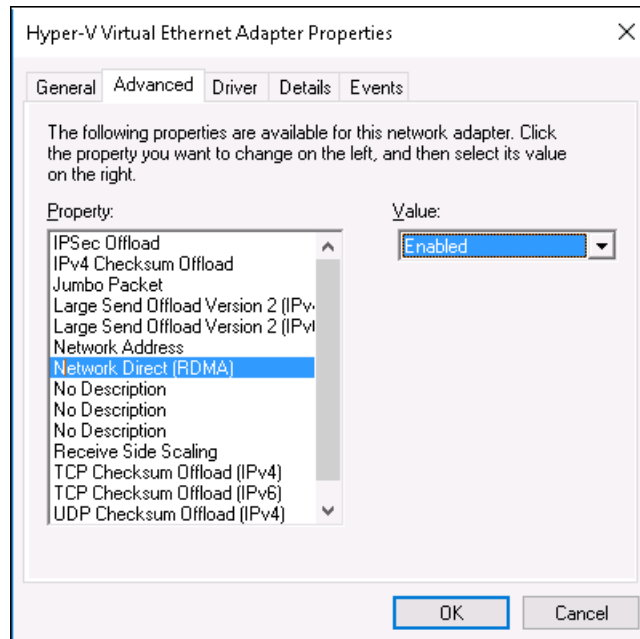

Figure 9-2. Hyper-V Virtual Ethernet Adapter Properties
3. On the Advanced page (Figure 9-2):